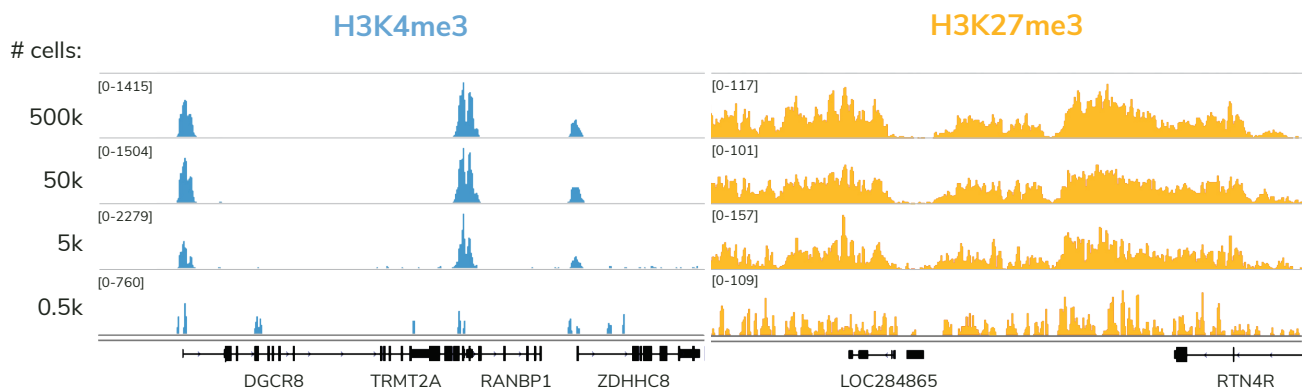

FIGURE 4
- **Low cell number requirements.** Although it is recommended to use 500,000 cells per reaction, comparable data can be generated down to 5,000 cells (Figure 4).